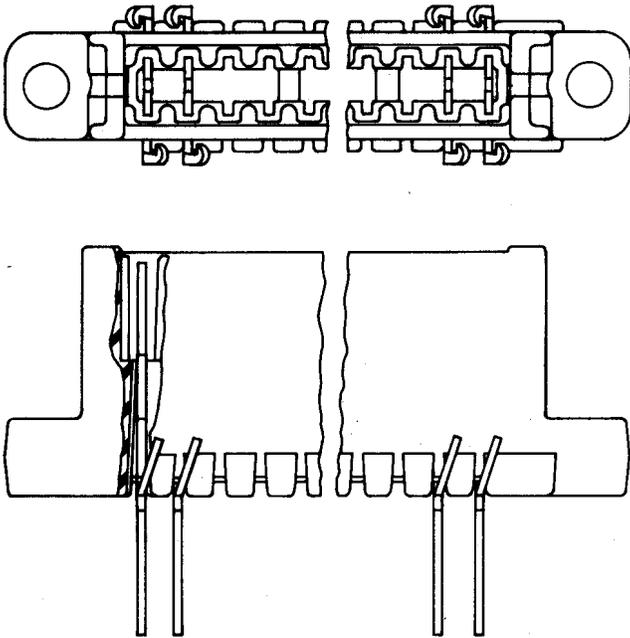

Fig. 3—903A Connector
- (a) **903A:** The 903A connector (Fig. 3) is used in the N2 carrier terminal.